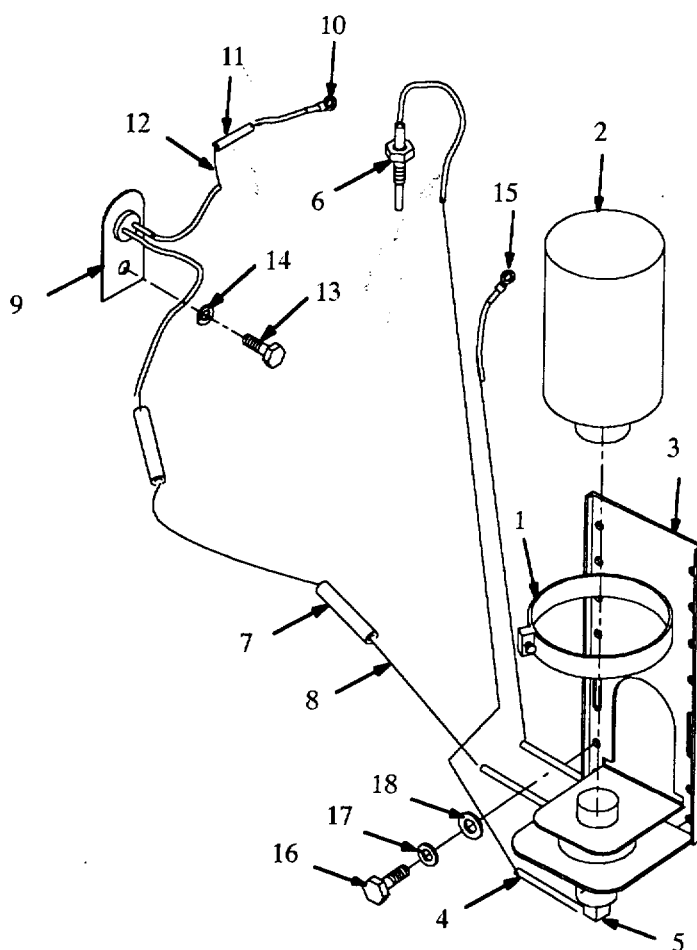

Figure 4-7.1. Starting Aid Solenoid Maintenance (Model 350 PAFN).
4.10.4.1.1. Removal. (Refer to Figure 4-7.1)**WARNING**
4.10.4.1.3. Installation. (Refer to Figure 4-7.1)